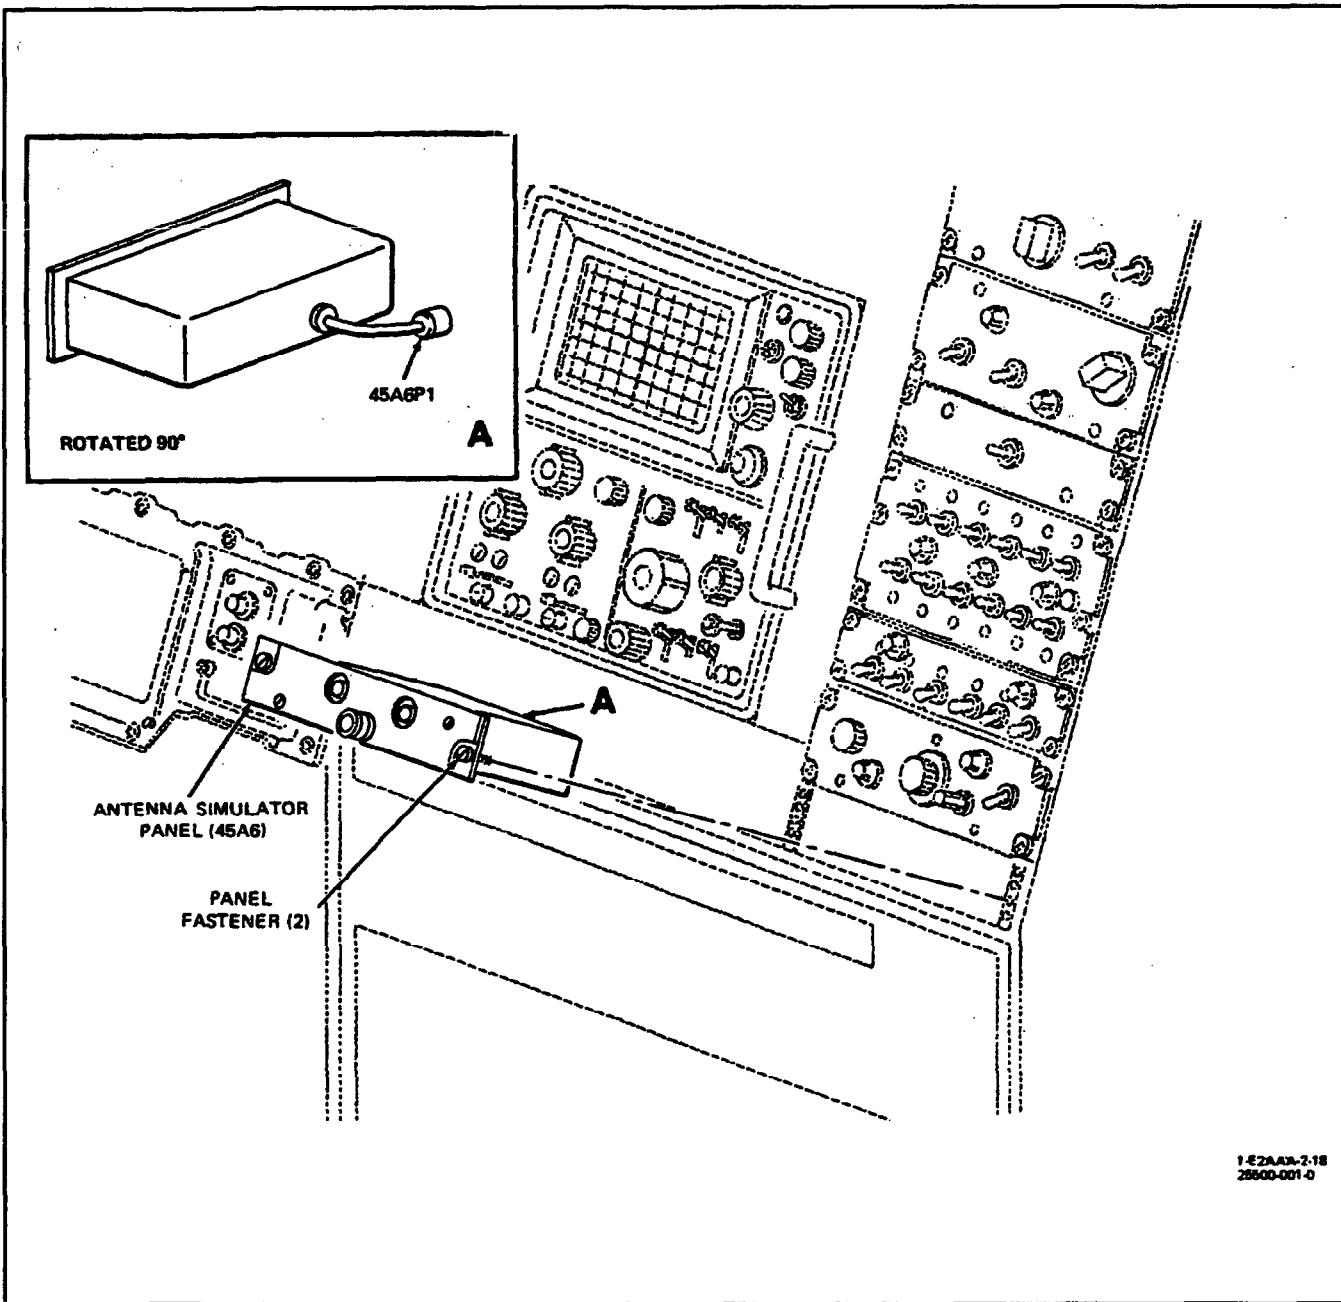

Figure 1. Removal and Installation of Antenna Simulator Panel
3. REMOVAL. (See figure 1.)
4. **INSTALLATION.** (See figure 1.)